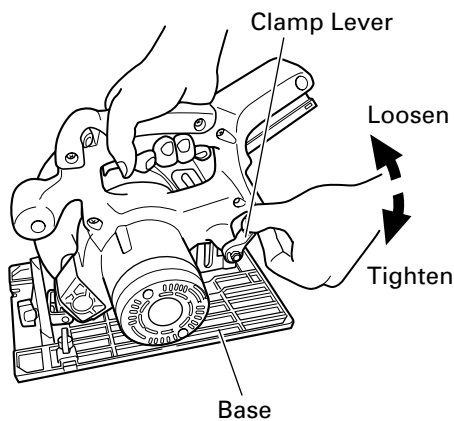
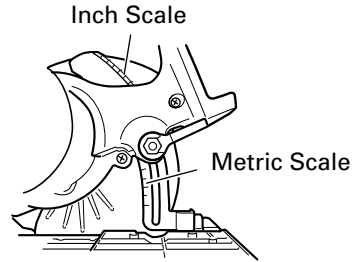

Fig. 13
Fig. 14
If the clamp lever to adjust cutting depth (Fig. 13) is loose, injury can result. Make sure that it is tightened securely.
1. Adjusting the cutting depth (Fig. 13, Fig. 14)